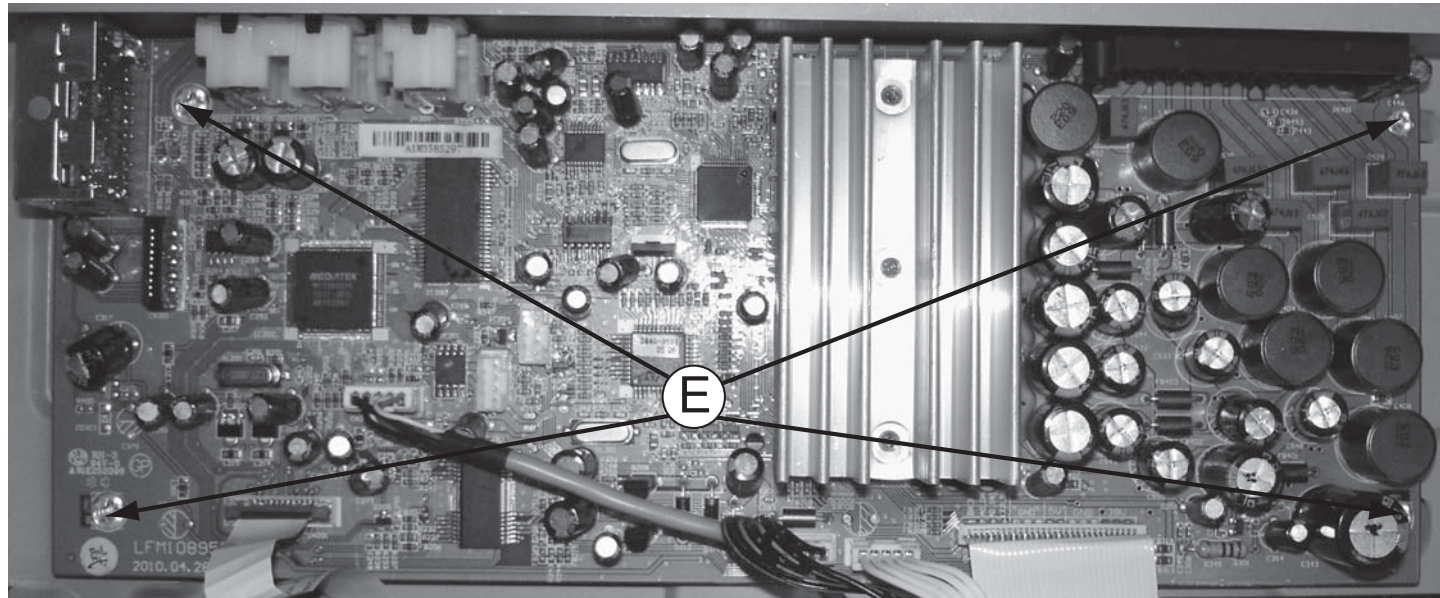

Figure 8
- 1) Loosen 4 screws " E " on the top of MAIN Board as shown in figure 8.